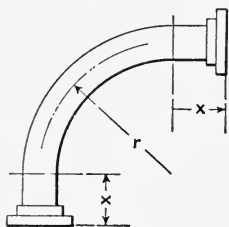
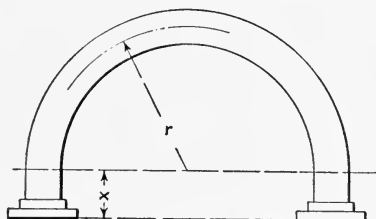
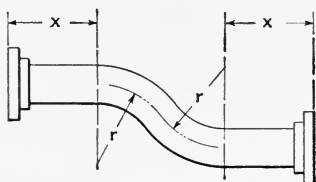

Fig. 82
Fig. 83
Fig. 84
**T**YPES of Pipe Bends.—In many classes of drainage work, particularly car and marine plumbing, pipe bends are extensively used instead of cast-iron or malleable-iron fittings; hence the necessity for a knowledge of what size and kinds of bends can be made. For drainage work there are but three principal types of bends used. The first, Fig. 82, is a quarter bend and is the one which has to be made most frequently. The second, Fig. 83, is a return bend, and the third, Fig. 84, is an offset bend.
ard pipe is six times the inside diameter of the pipe. That is, the advisable radius,  $r$ , Figs. 82, 83, 84, for a 4-inch pipe would be  $4 \times 6 = 24$  inches. There is a minimum and a maximum radius for pipe bends above or below which bends cannot conveniently be made. If the radius must be reduced